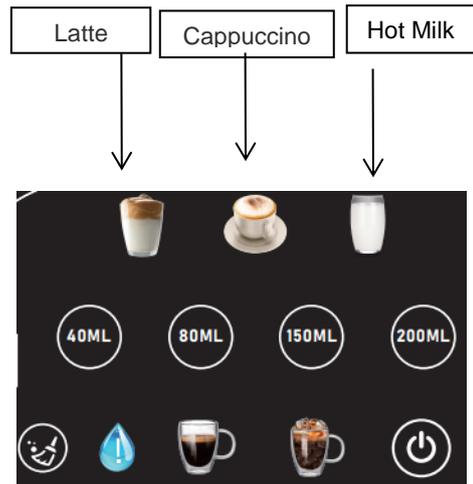

Figure 7
3. Before use, check whether the milk froth adjustment knob on the milk tank is rotated to the froth position (aligned with the froth icon). When the knob points to the froth icon, the Latte, Cappuccino, and Hot Milk functions can be activated normally. If the knob is set to the cleaning icon, the Latte, Cappuccino, and Hot Milk options on the display will flash rapidly at a speed of 0.5 seconds. To initiate cleaning, tap any of these three icons. To exit cleaning mode without performing a rinse, simply rotate the knob back to the froth position (see Figures 7 and 8).